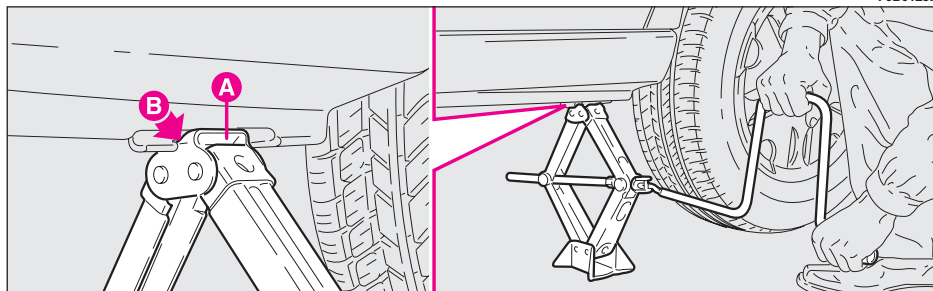

fig. 8
14) Make sure that the groove **A**-fig. 8 on the jack is well fitted on the ribbing **B** on the side member.